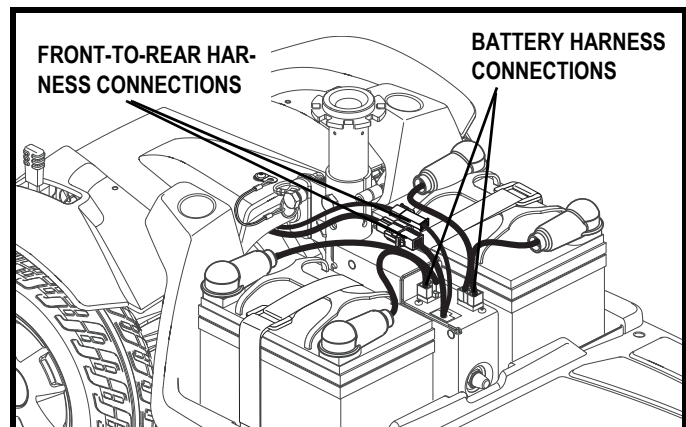

Figure 23. Harness Connections
4. Unplug both battery harnesses by depressing the tabs and then pulling each harness straight up. **See figure 23.**
6. Disconnect both front-to-rear harnesses. **See figure 23.**
7. Connect both battery harnesses. See **figure 23**.